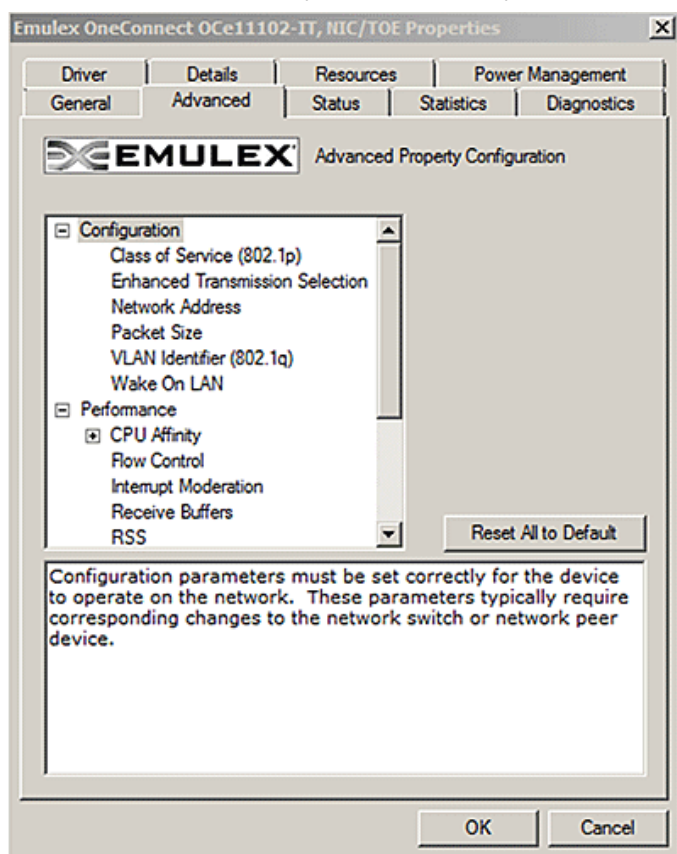

Figure 3-2 NIC Advanced Properties in Windows Server 2008
3. Click **Properties**, and click the **Advanced** tab (see Figure 3-2 on page 67).